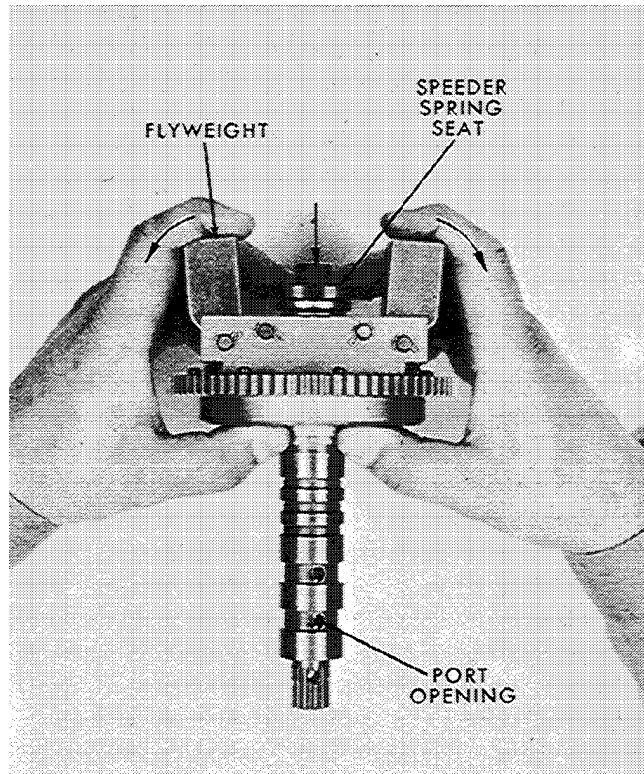

Figure 3-8
9. When assembling the power cylinder assembly onto the power case, align the holes in gasket (13) with the holes in power case (28) instead of with those in the power cylinder.
10. When assembling the flyweight head pilot valve bushing assembly, align the missing tooth in the pilot valve bushing with the corresponding missing tooth in its mating part (items 76 and 87).
11. The three-piece thrust bearing (66) fits onto the stem of the pilot valve plunger (85) with the bearing race with the larger hole on the bottom (against the flyweight toes).
12. "Center" the pilot valve plunger in this manner: wish slight pressure on the speeder spring seat (65), adjust the pilot valve plunger nut (63) until, as the flyweights (70) are moved from their extreme inward to their extreme outward position, there is the same amount of control land showing in the control port at each extreme.
The control ports are the bottom row of holes in the pilot valve bushing assembly. See Figure 3-8. (Note: Shutdown rod (72) and retaining ring (73), if used, must be inserted through nut (63) before the centering adjustment is made.) Be sure to install cotter pin (64).